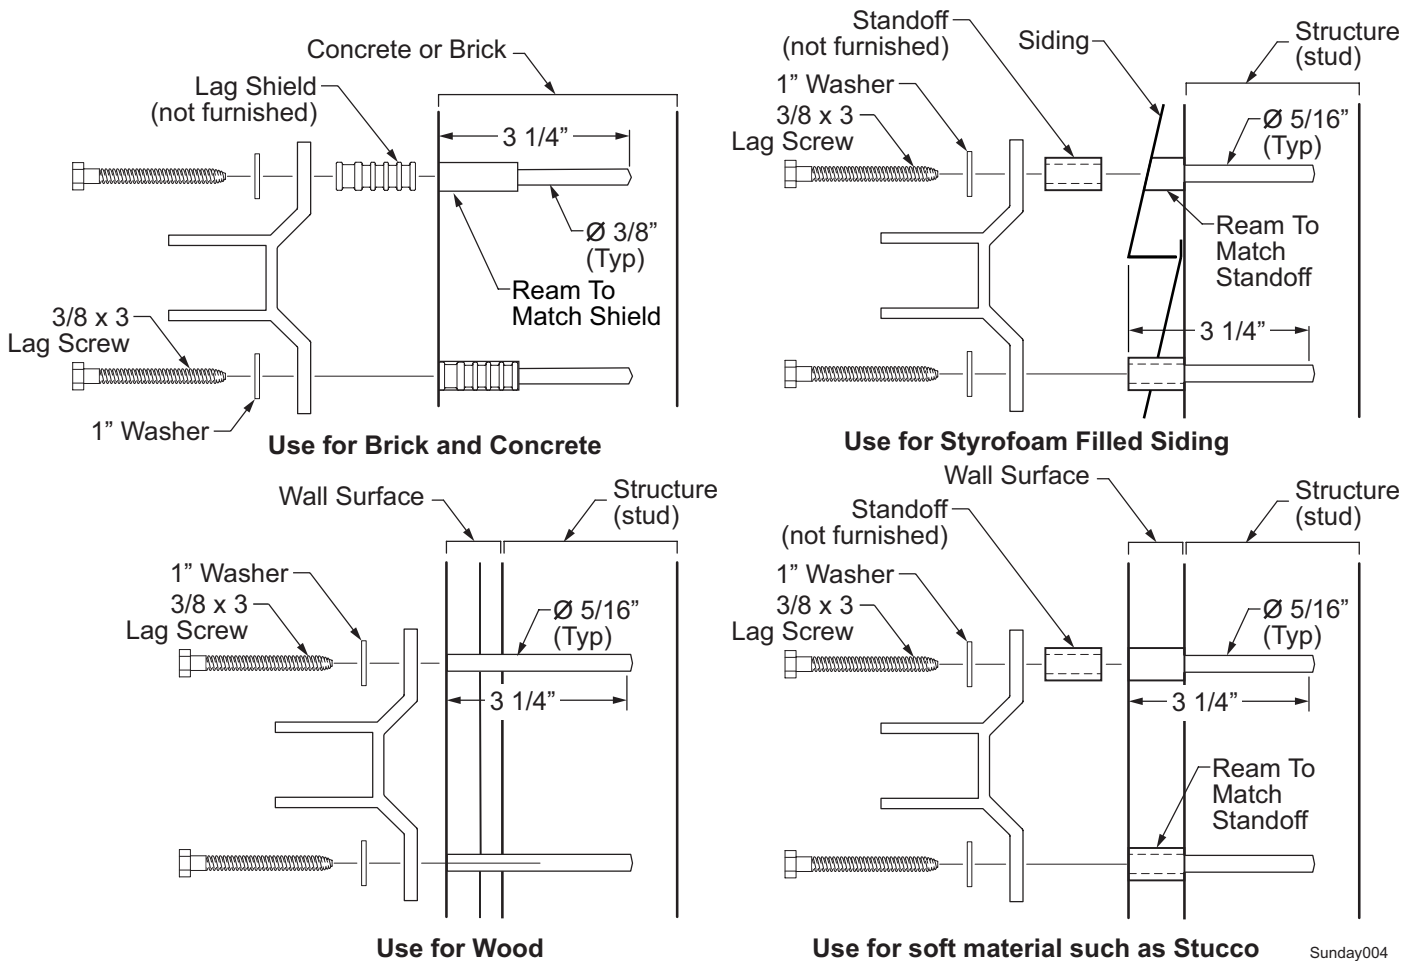

Figure 3. Attaching the Mounting Brackets.
5. Determine the best method to attach the mounting brackets to the wall. Examples for attaching the mounting brackets are shown in Figure 3. Bracket attach details are suggestions and may not cover all circumstances. If unsure, consult a builder or engineer prior to installation.